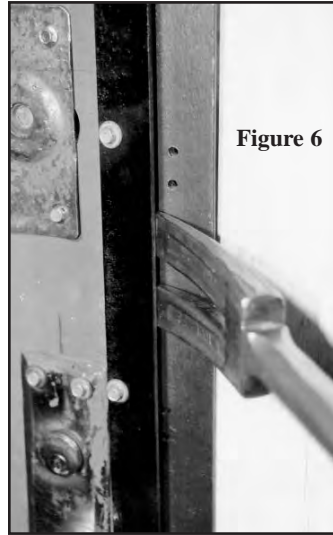

Figure 6
2. Drive the *fork* under the edge. Push tool back toward door, working the *fork* between the door and frame. Reverse tool, if needed. (Figures 6, 7 and 8)